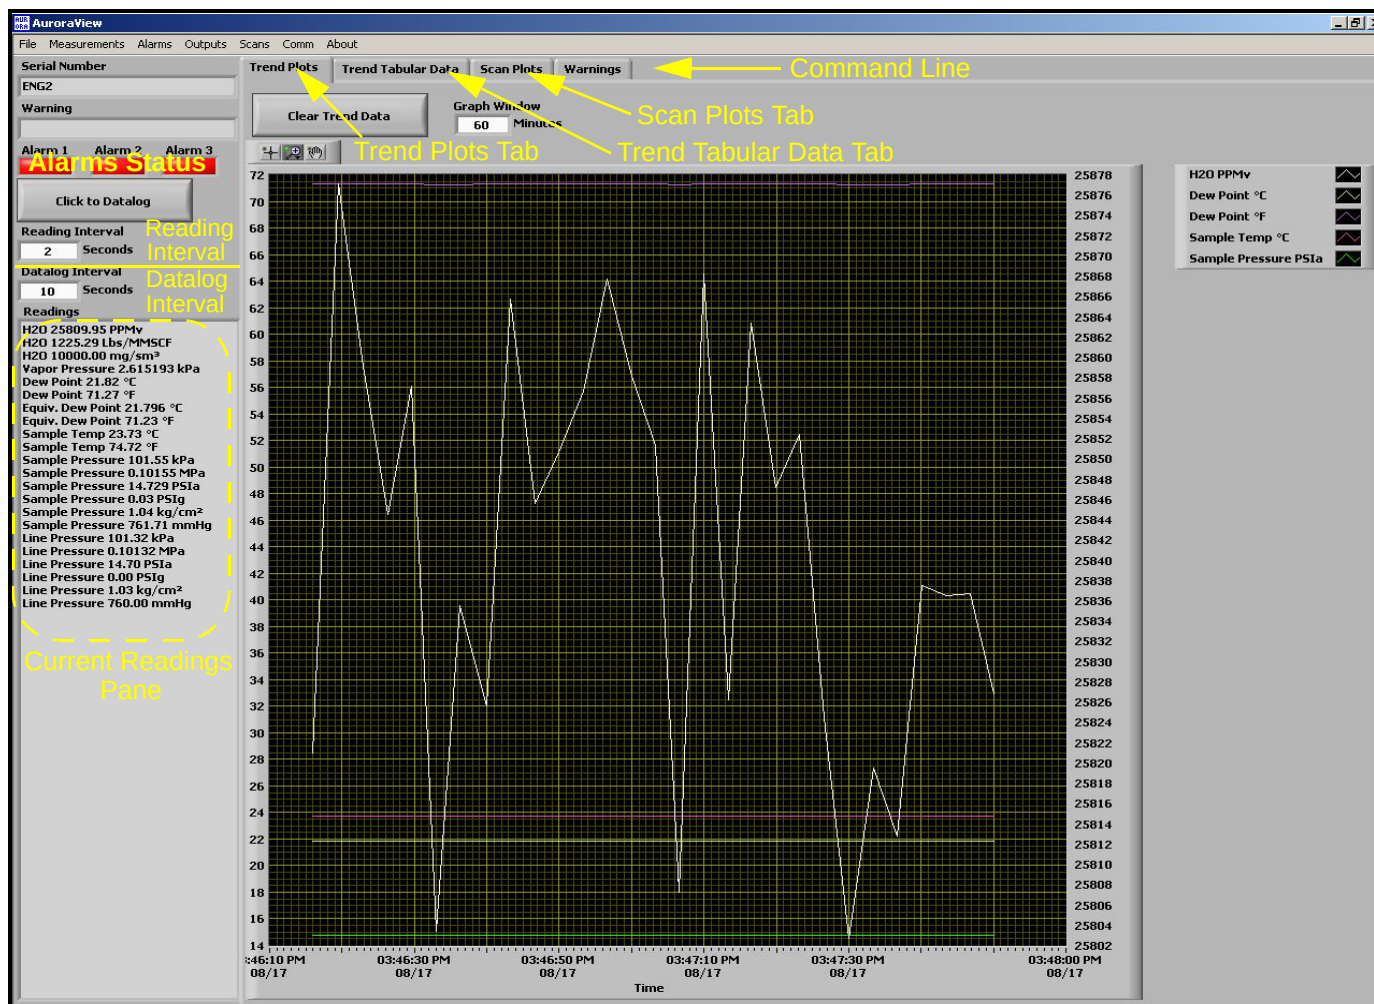

Figure 50: AuroraView Main Screen
2. AuroraView boots up and displays a screen similar to *Figure 50* below.